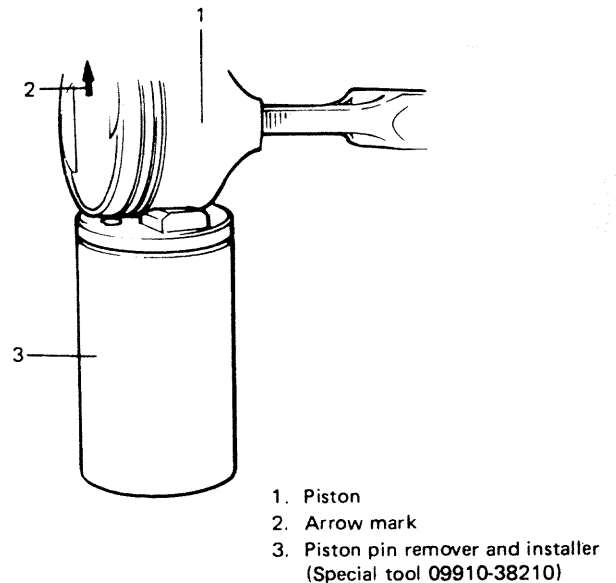
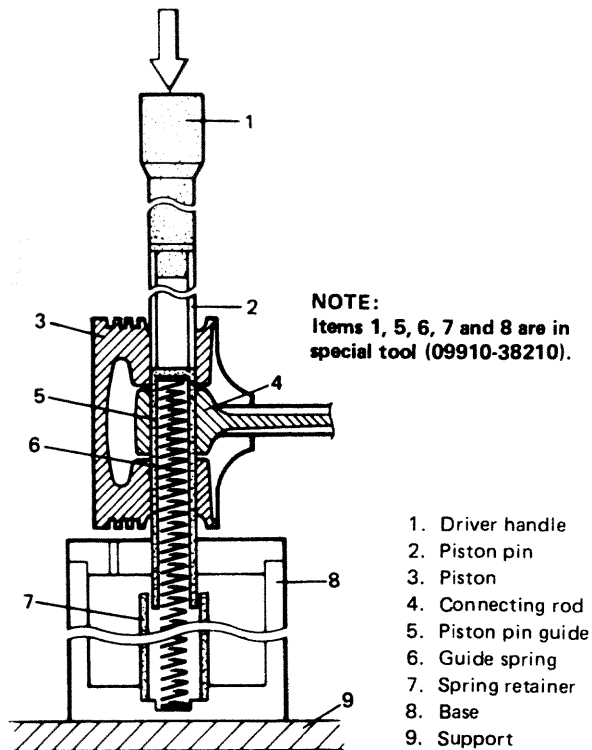

Fig. 3-6-13 Fitting piston to special tool
Fig. 3-6-14 Installing piston pin
- ② Place piston on piston pin remover and installer (special tool) as indicated in Fig. 3-6-13, and press piston pin into piston and connecting rod (Fig. 3-6-14).